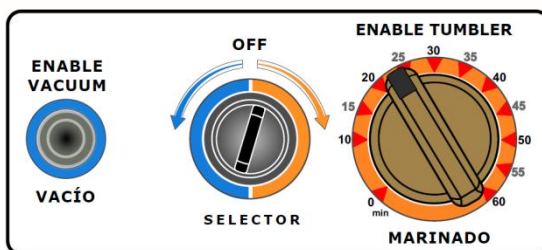

FIG. 3 CONTROL PANEL
5.- Turn the selector knob to “ENABLE VACUUM” position (Fig. 3). The recommended level for a good product is between 12inHg and 15inHg (40KPa and 50KPa respectively):
6.- Press the “ENABLE VACUUM” button (located at the left of the selector knob) to start the vacuum cycle (Fig. 3).
10.- Turn the selector knob (Fig. 3) to “ENABLE TUMBLER” position in order to activate the timer.
a) Adjust the knob of the timer (fig. 3) in order to set the desired time (marinating cycle) according to the product that will be processed.